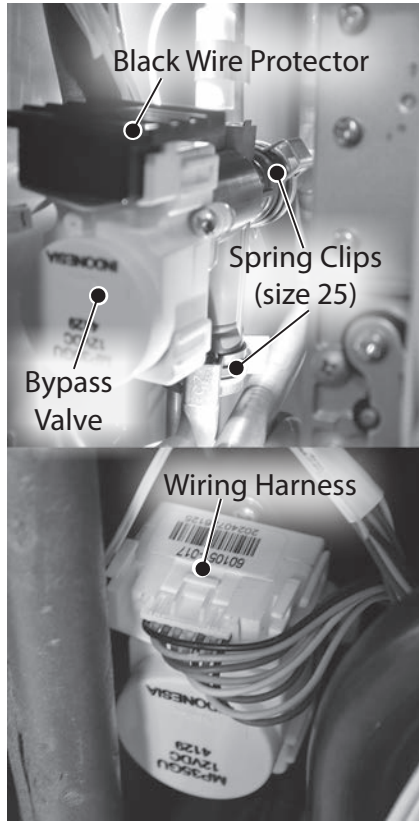

Figure 185 - Bypass valve
- 14** Locate the bypass valve on the left side of the water heater as shown in Figure 185.